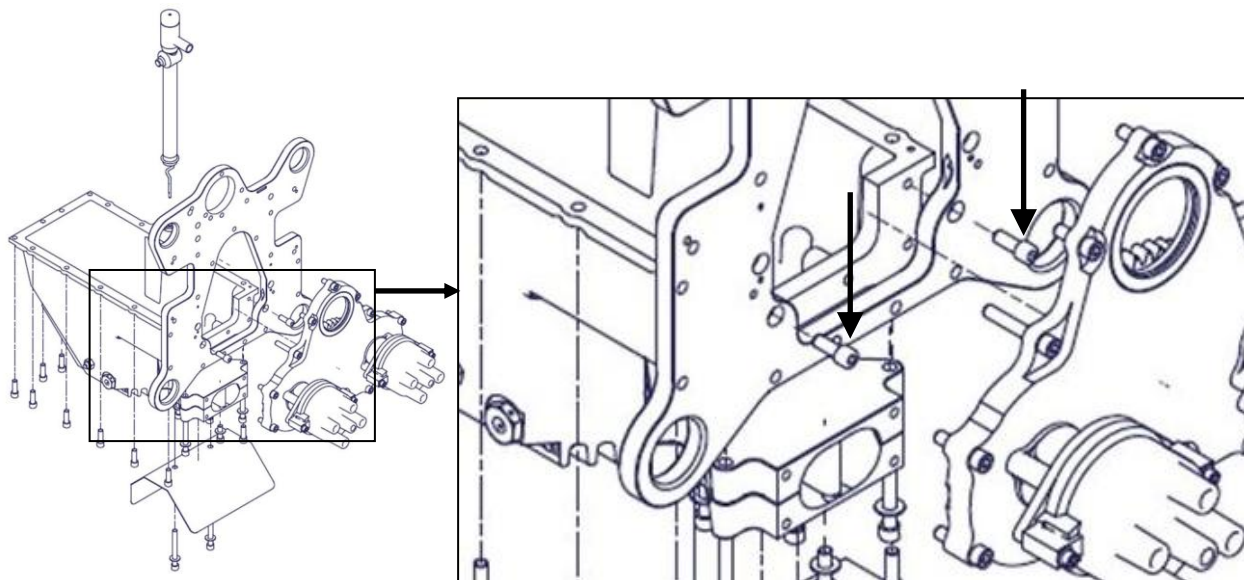

Figure 50 – Hidden Sump Screws
- Figure 50 shows 2 hidden screws which hold the sump to the engine mount plate. These screws can only be accessed by removing the timing gearbox. Note that these screws have been omitted on later model engines to allow the sump to be removed without first removing the gearbox.